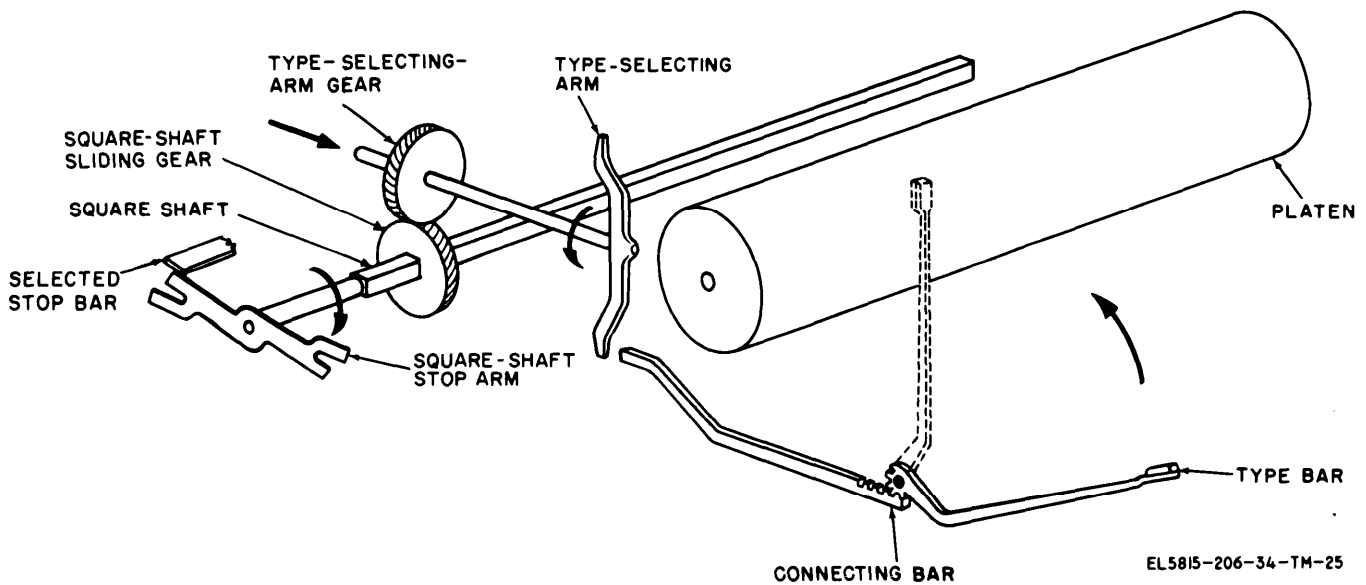

Figure 2-25. Type bar selection, simplified drawing.
*a. Character Selection.* Twenty-six type bars and their associated connecting bars are mounted in a semicircle in the carriage of the page printer (fig. 2-25 and 3-7). The type-selecting arm is geared to the square shaft and rotates with it (fig. 2-25). The square shaft starts to turn immediately after the transfer operation occurs and stops when it strikes